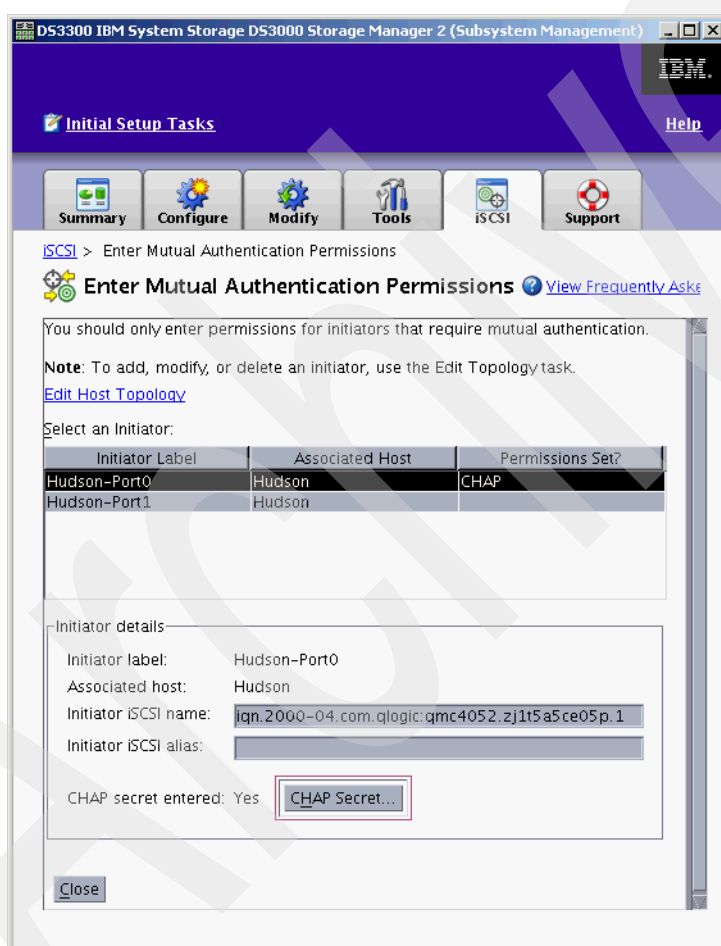

Figure 13-7 Storage Manager - Defined mutual authentication settings
5. The Permission Set? column now indicates that the port has a CHAP secret defined, as shown in Figure 13-7. Define CHAP secrets for all remaining host ports using the same procedure. When this is complete, click **OK** to exit this task.